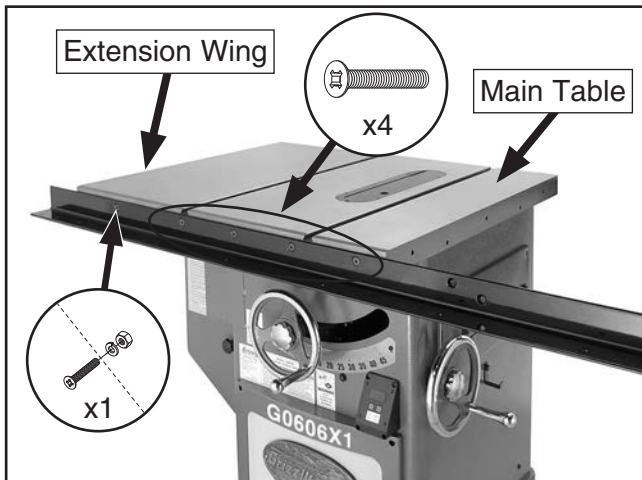

Figure 22. Front rail installed (Model G0605X1 shown).
1. Fasten the front rail onto the main table with (4) M8-1.25 x 25 flat head screws, as shown in **Figure 22**.
2. Secure the left side of the front rail to the pre-installed extension wing with (1) M8-1.25 x 25 flat head screw, 8mm lock washer, and M8-1.25 hex nut (see **Figure 22**).